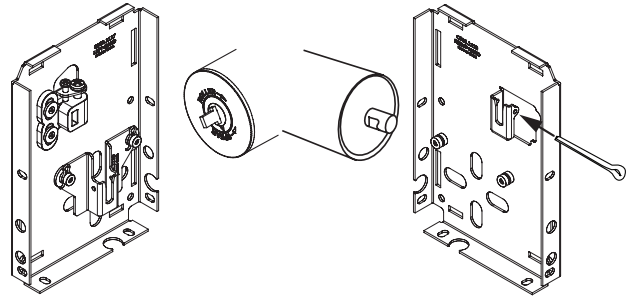

Figure 7
- 12) Slide the fabric roller assembly into the brackets, spear-end first (see Fig. 7). The triangular shaped arrow on the end of the device MUST now be pointed up away from the ground when installed (see Fig 5a). Pointing the arrow upward will insure that the mechanism will not "lock" during operation. Raising the hem-bar about 1/4-turn will "un-lock" the device, providing constant tension on the fabric panel. Insure that the hem-bar cannot move (counterclockwise) around the roller until the installation is complete.
- 13) Install the $\frac{3}{32}$ " diameter x $\frac{7}{8}$ " long cotter pin through the fabric roller idler bracket to secure the roller (see Fig. 7). Bend one leg of the cotter pin down to lock it into place.